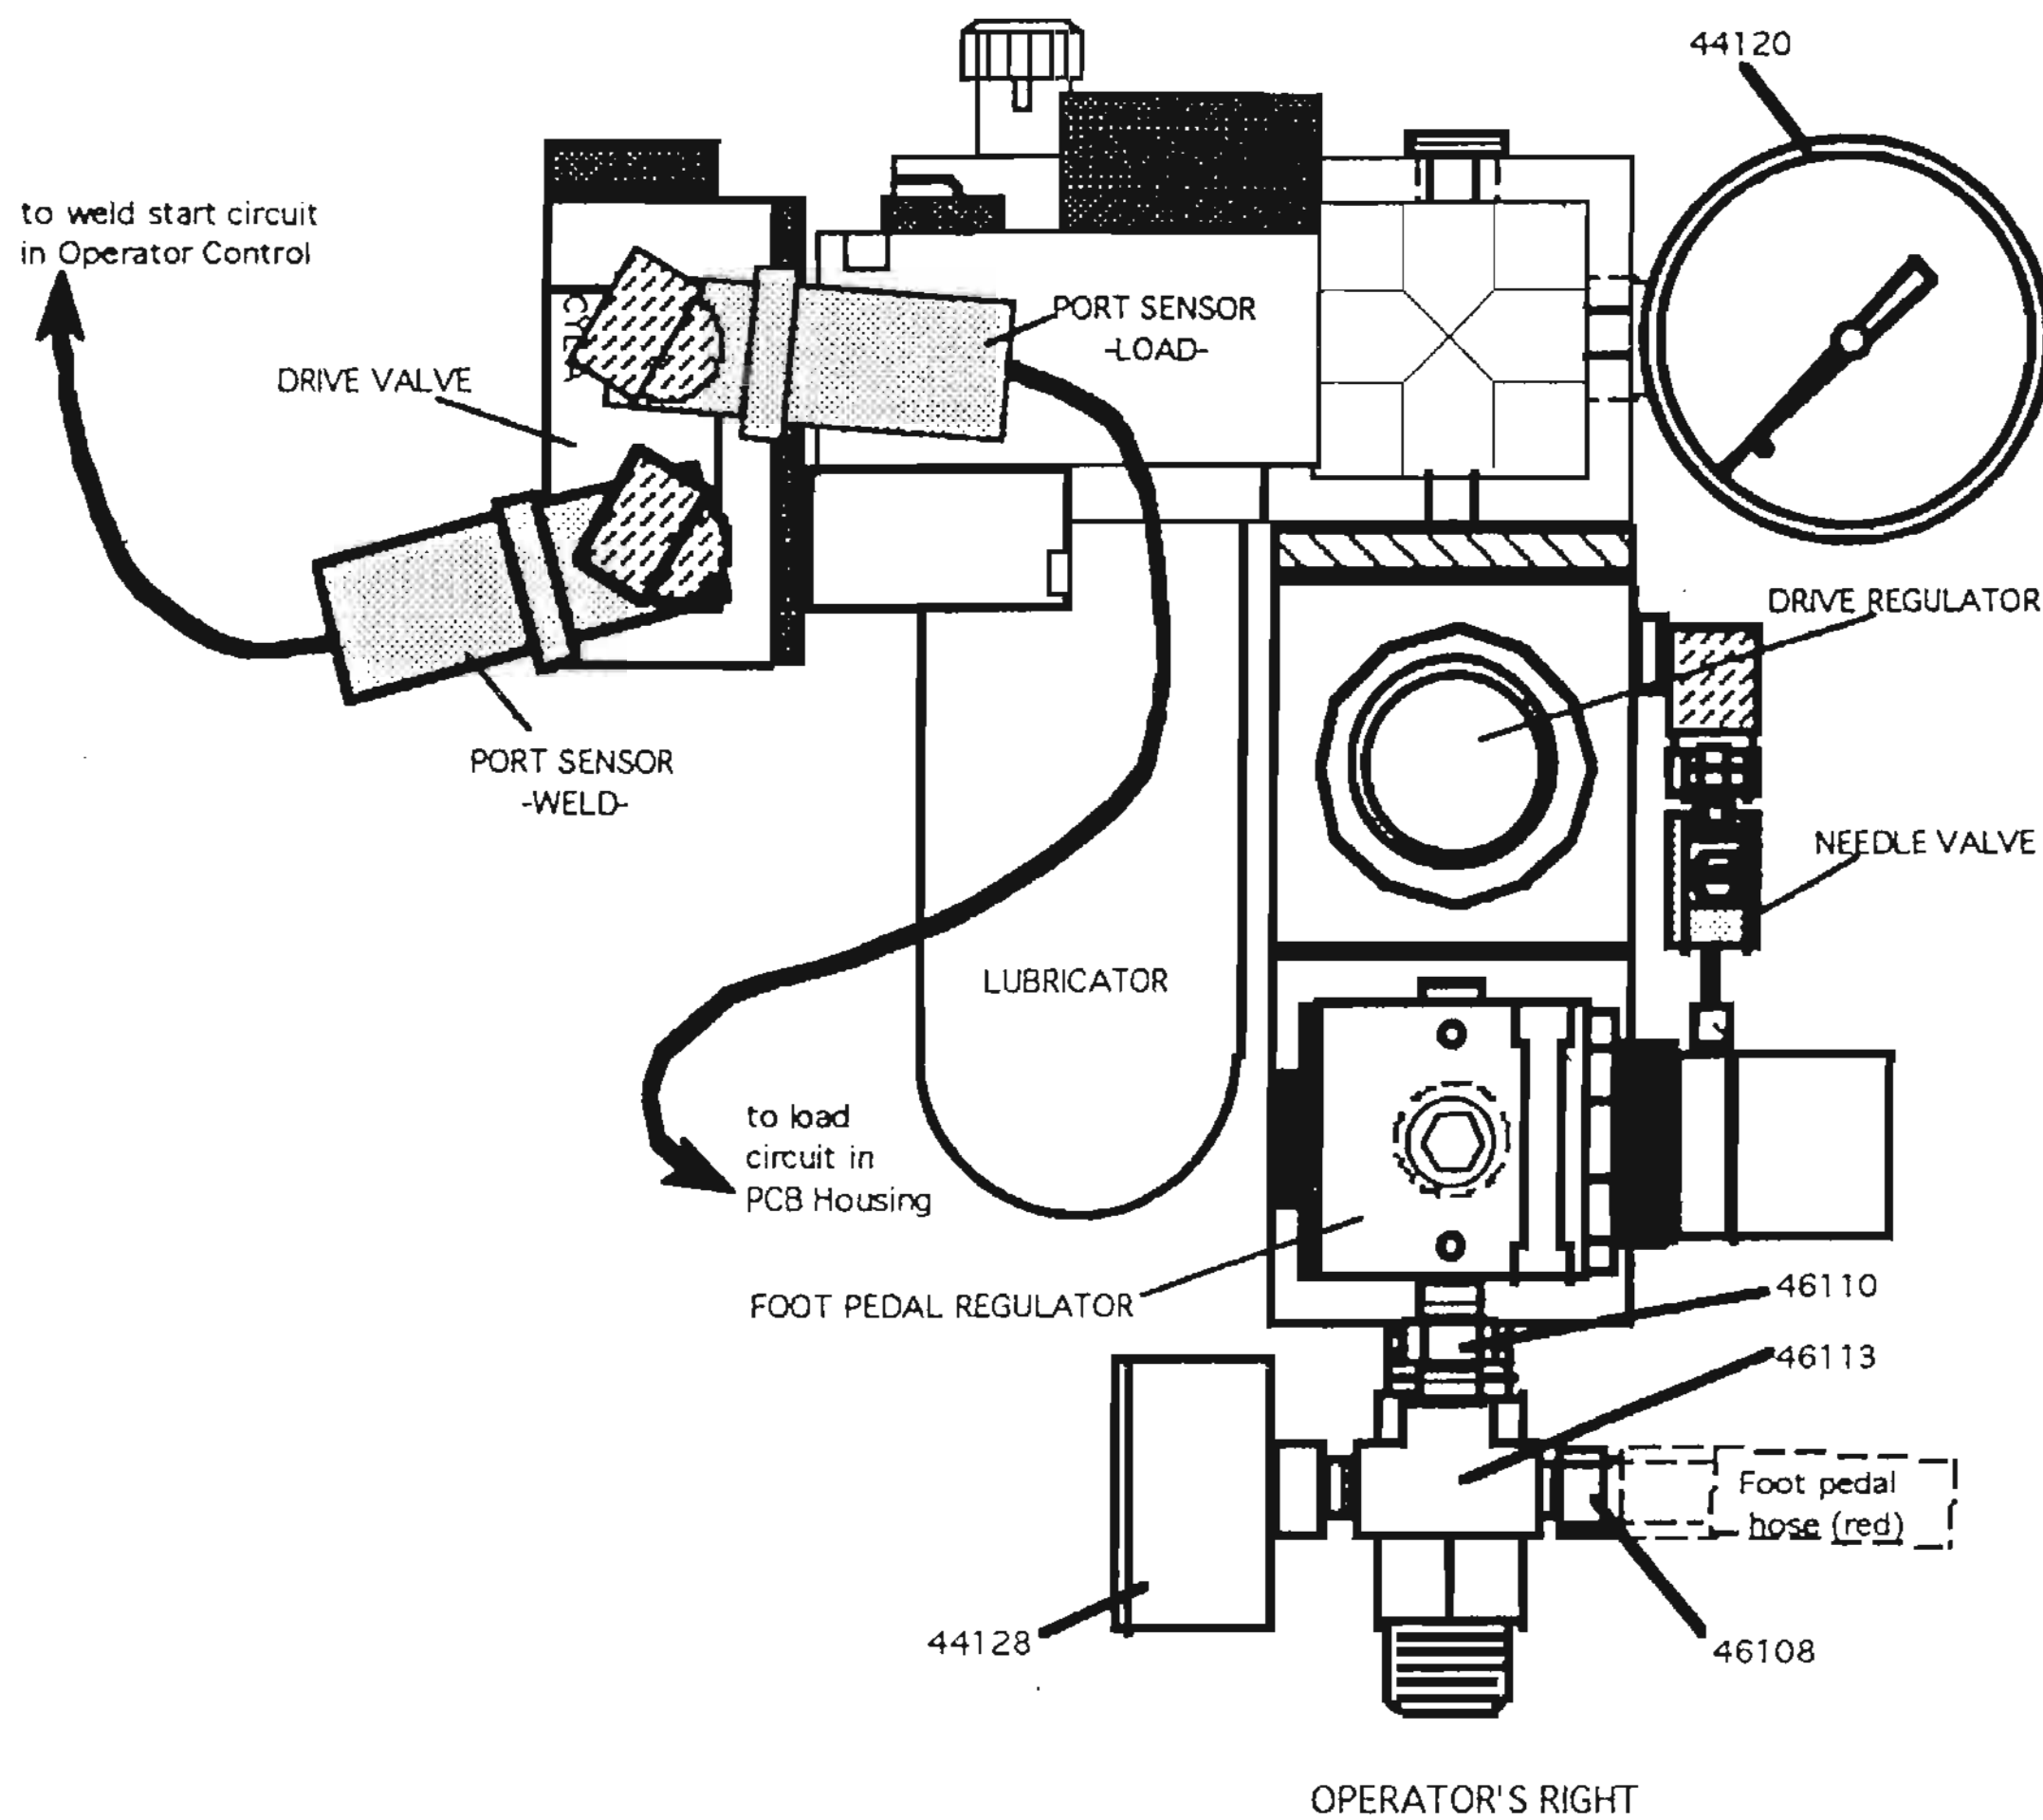

FIG 4-4
1. Two port sensors are used on the Model 7000 welder. They send signals to initiate the weld and load cycles. See Fig 4-4.
3. The weld initiate sensor is installed in the NORMALLY OPEN (B) valve port.
4. The load sensor is installed the NORMALLY CLOSED (A) valve port.
**NOTE:** REFER TO FIG 4-4